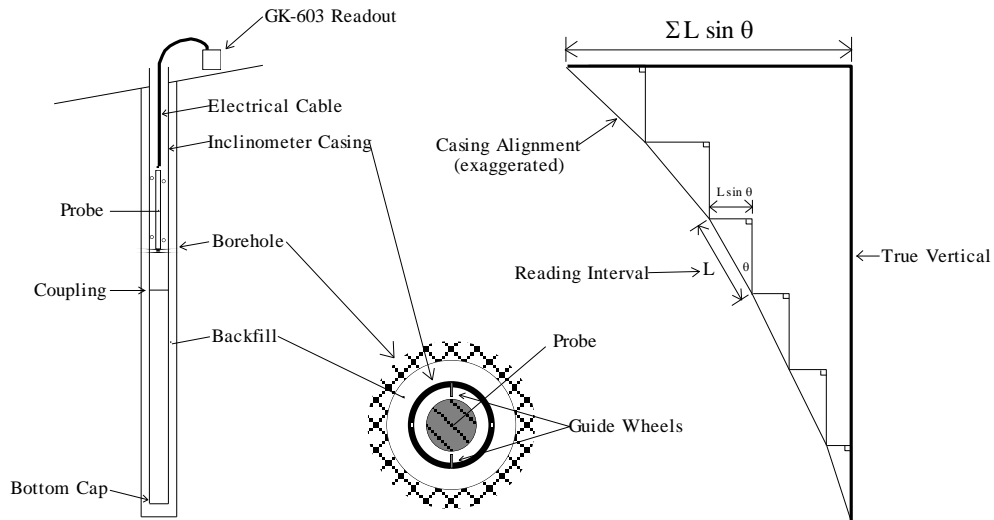

Figure 80 - Inclinator Survey Description
Subsequent surveys of the inclinometer casing, when compared with the original survey, will reveal any changes of inclination of the casing and locations at which these changes are taking place. Analysis of the change of inclination is best performed by computing the horizontal offset of the upper wheels relative to the lower wheels which has produced the tilting (θ) over the reading interval (L) of the survey (usually the wheel base of the probe, 2 feet for English systems, .5 meter for Metric). At each position of the inclinometer the two readings taken on each axis (A+, A- and B+, B-) are subtracted from each other leaving a measure of $\sin\theta$. This value is then multiplied by the reading interval (L) and the appropriate factor to output horizontal deflection in engineering units (inches for English, centimeters or millimeters for Metric) (see Figure 80).